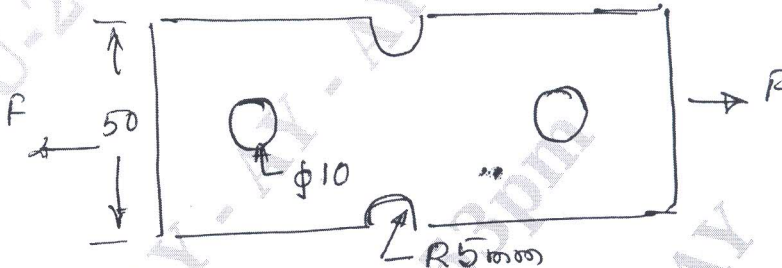

Fig.Q1(b)
b. Determine the safe load that can be carried by a bar of rectangular cross section shown in Fig.Q1(b). Limiting the maximum stress to 130 MPa taking stress concentration into account and assume thickness of bar as 10 mm.